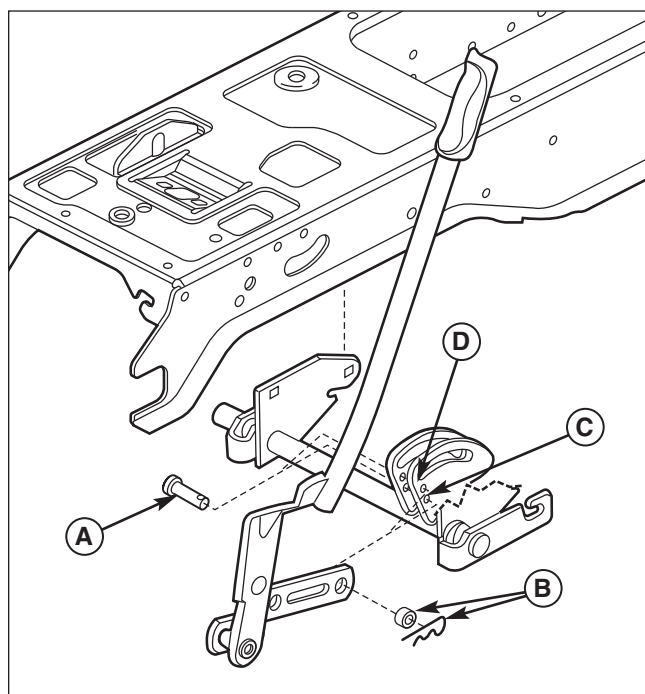

Figure 20. Lift Link Positions-Normal
10. **Manual Lift Models:** Switch the lift link from the tilling position (D, Figure 20) to the mowing position (C).
1. **Manual Lift Models:** Switch the lift link from mowing position (C, Figure 20) to tilling position (D).